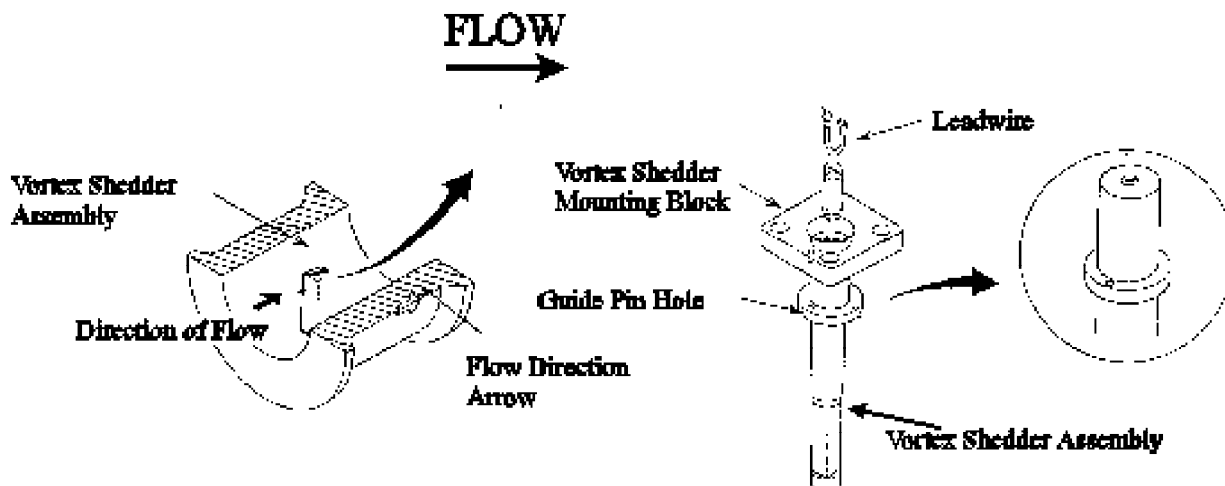

Figure 4.4.1: Vortex Shedder Bar Orientation
- 2) Orient the shedder bar with the wider surface upstream. Align the guide pin on the vortex shedder mounting block with the guide pin hole (1" - 4" flowmeters only). See figure 4.4.1.